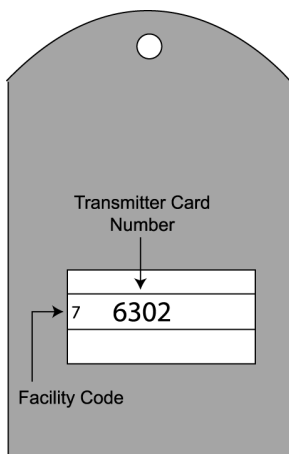

Figure 6: Transmitter Card Number
- The card number, to be used for block enrolling, may be found on the label of the transmitter card. An example of where the information may be located on the transmitter card is shown in Figure 6.